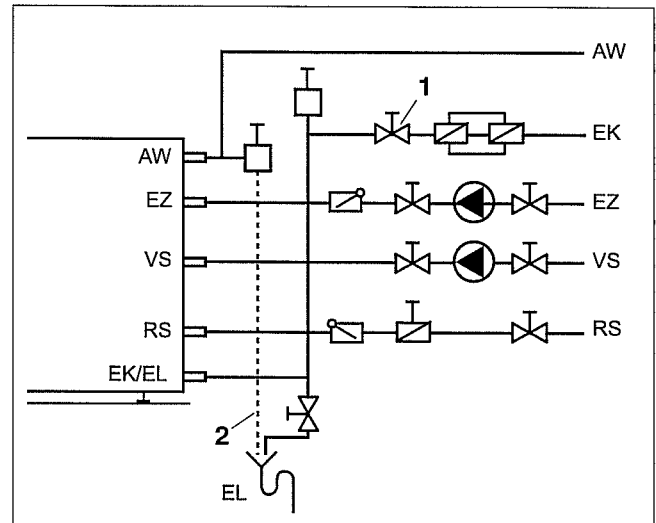

Fig. 13 Installation diagram
- Open the cold feed to the tank (Fig. 13, **Item. 1**) to fill the tank.
- Make sure that the P and T relief piping Fig. 13, page 13) is **NEVER** blocked.
- Make sure to always keep P and T relief piping open and unobstructed (Fig. 13, page 13).